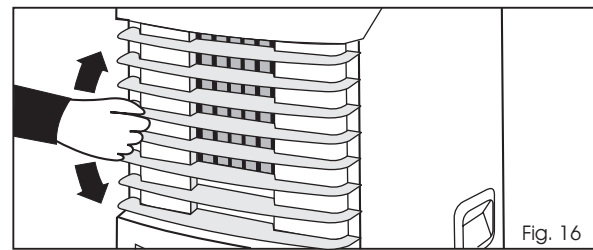

Fig. 16
- 8) To adjust "air flow" direction , (up / down only) adjust any one of the **Horizontal Louver Blades (excluding the top or bottom louver)** and the remaining louvers will automatically adjust to the set position (**excluding the top and/or bottom louvers**). Fig.16.